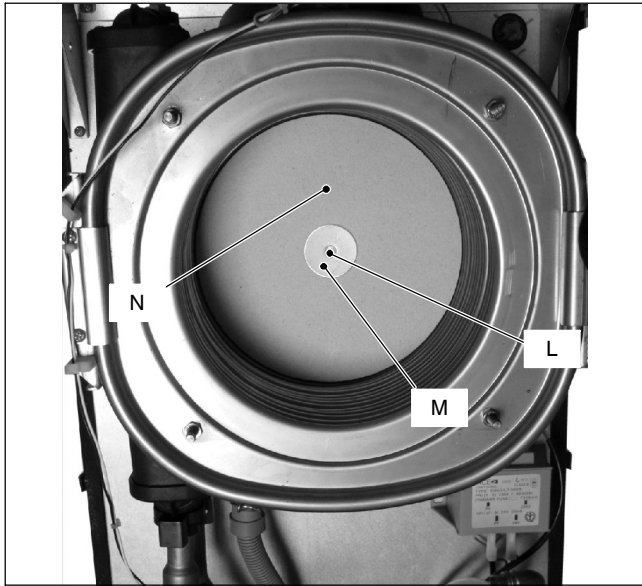

Fig. 18.7
- 2 Unscrew the screw *L*, remove the washer *M* and the rear insulation *N* (Fig. 18.7).
The rear insulation (Fig. 18.7) must be replaced if damaged or wet